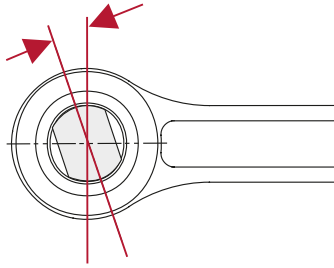

Figure 61: Mark Clocking Position of Bar Pin Flats
2. Mark the clocking position of the bush assembly bar pin flats with a paint stick on the torque rod end hub. Clocking varies for different model configurations. Refer Figure 61.